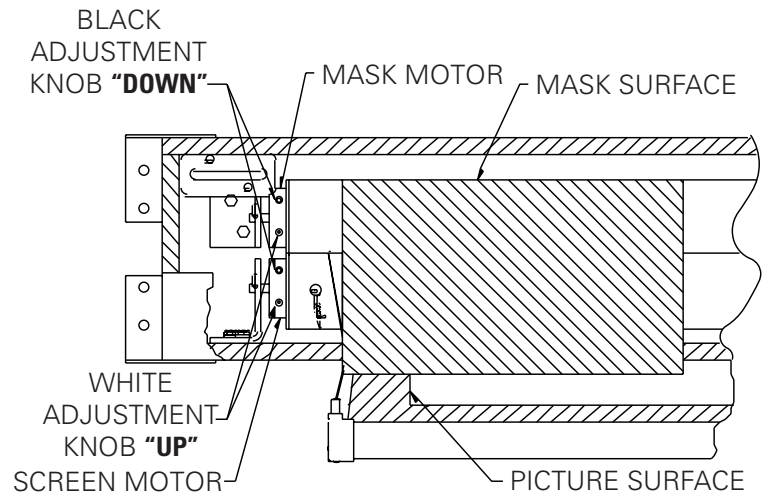

FIGURE 2
3. When the screen stops, turn the black "down" limit knob (Fig. 2) one-quarter turn counterclockwise. Test by raising picture surface approximately two feet, then lower again. Repeat until desired picture surface position is attained.
4. Turn the black "down" limit knob (Fig. 2) one-quarter turn clockwise. Test by raising picture surface approximately two feet, then lower again. Repeat until desired picture surface position is attained.
3. When the screen stops, turn the red "down" limit knob (Fig. 2) one-quarter turn counterclockwise. Test by raising picture surface approximately two feet, then lower again. Repeat until desired picture surface position is attained.
4. Turn the red "down" limit knob (Fig. 2) one-quarter turn clockwise. Test by raising picture surface approximately two feet, then lower again. Repeat until desired picture surface position is attained.